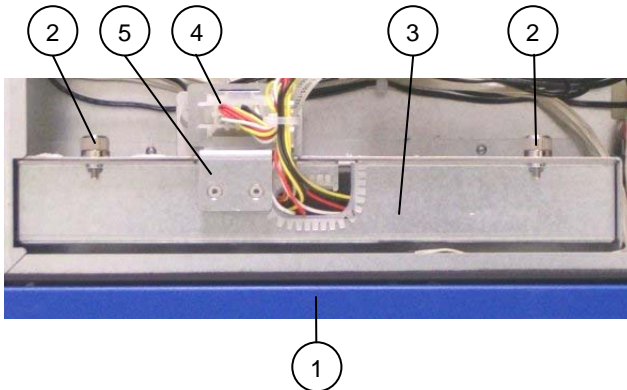
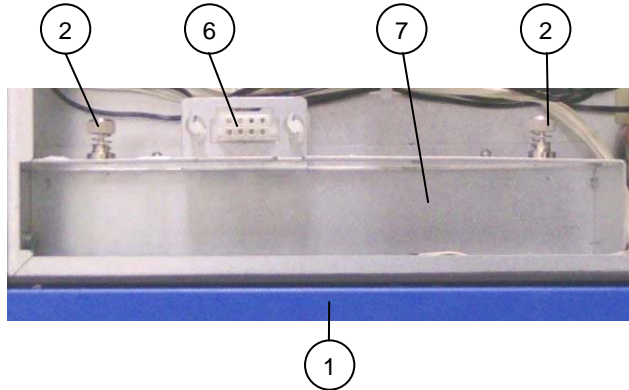

Fig. 22: KISS 2U – Details of the fan slide-in module in the system chassis
Fig. 22a: Fan compartment of the KISS 2U without a fan slide-in module
2. Loosen the knurled screws (*Fig. 22, pos. 2*) and pull the handle on the fan slide-in module (*Fig. 22, 22b, pos. 5*) upwards out of the fan compartment (*Fig. 22a, pos. 7*).
Key for Figs. 22, 22a and 22b: